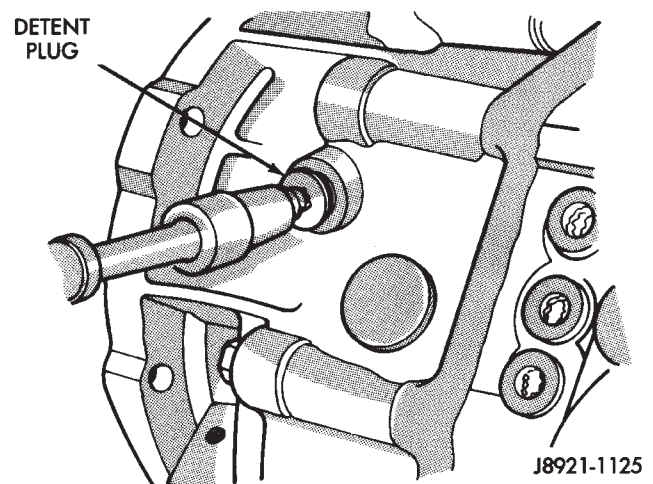

Fig. 122 Installing Detent Access Plug
(20) Install detent access plug (Fig. 122). Tighten plug to 19 N•m (14 ft. lbs.) torque.